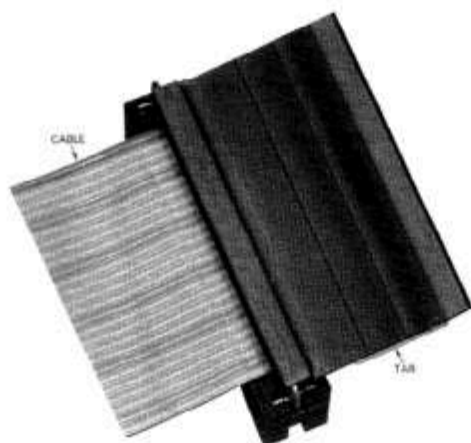

Figure 3.8 PULL TAB ON PROGRAMMER CABLE
30. If the programmer is to be used with the 5' (1.5m) extender cable (catalog no. IC610CBL100), it can be installed next, or when required. One end of the cable has a pull tab (see Figure 3.8). This end is connected to the programmer. The other end is connected to the 26-pin connector on the Series One Junior basic unit. Both ends are keyed for proper installation. The red edge of the ribbon cable is installed up at both ends.